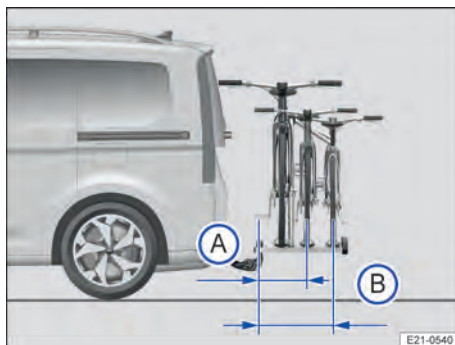

Fig. 144 Illustration of the maximum overhang on a bicycle carrier for two or three bicycles.
19.7 in) → Fig. 144 Ⓐ from the middle of the ball head to the middle of the rail of the last bicycle carrier. The overhang must not exceed 700 mm (approx. 27.6 in)
→ Fig. 144 Ⓑ for bicycle carrier systems with three bicycles.